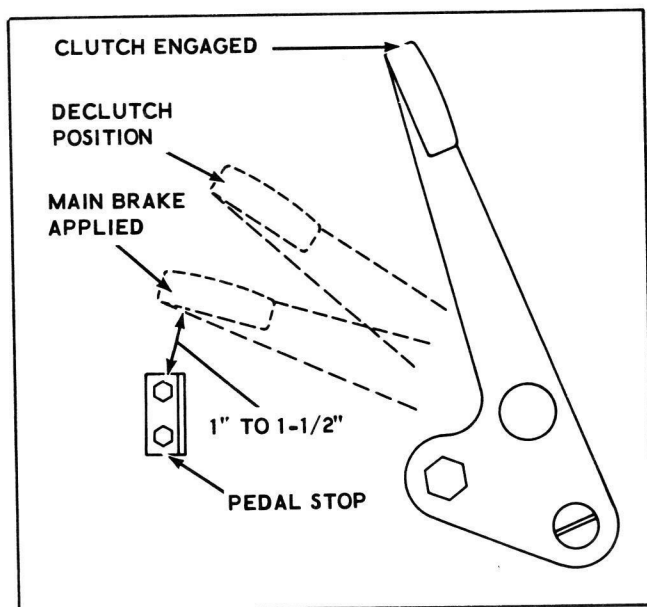

Figure 13
3. Brake shoe must contact drum when CLUTCH-BRAKE pedal is approximately 1" to 1-1/2" from pedal stop on frame. (See Figure 13.)